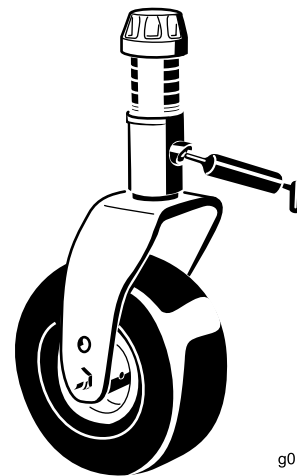

Figure 15
- Castor fork shaft bushings (2) (Figure 15)